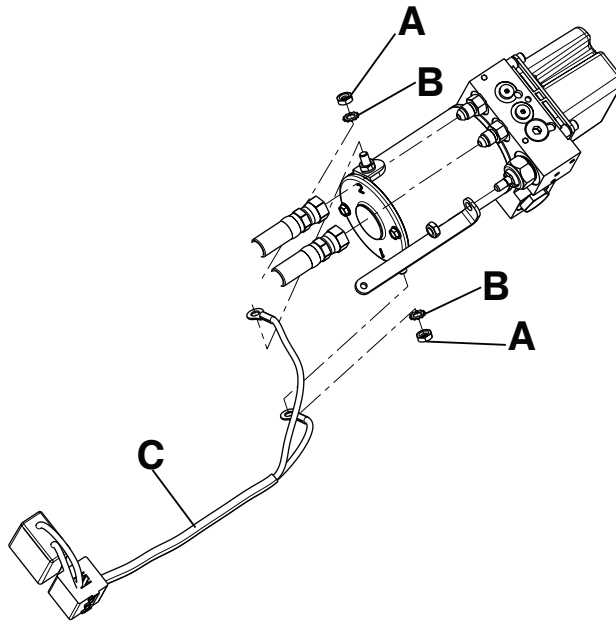

Figure 35 – Motor assembly
4. Using a 7/16" combination wrench, remove the two nuts (A) and star washers (B) that secure the motor cable (C) to the motor assembly (Figure 35).